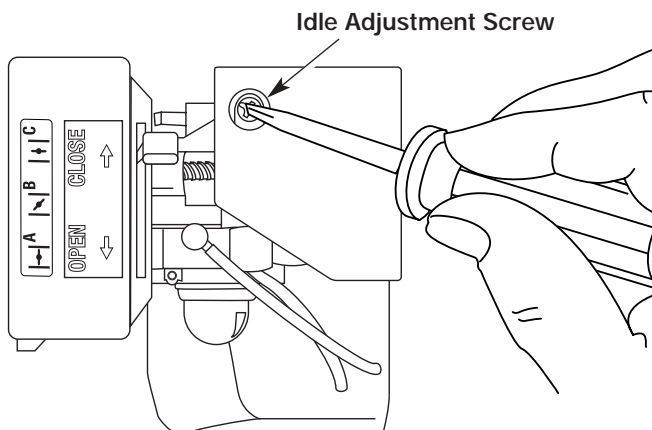

Fig. 26
The idle speed of the engine is adjustable. Reach the idle adjustment screw through a hole in the top of the engine cover (Fig 26).
2. Release the throttle trigger and let the engine idle. If the engine stops, insert a small phillips or flat blade screwdriver into the hole in the engine cover (Fig. 26). Turn the idle speed screw in, clockwise, 1/8 of a turn at a time (as needed) until the engine idles smoothly.